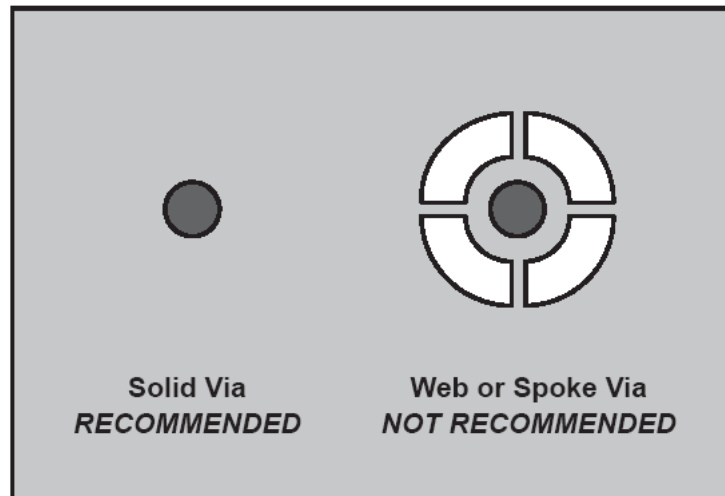

Figure 9.7: Via Connection.
4. Do not use the typical web or spoke via-connection pattern when connecting the thermal vias to the ground plane. Flood the via, rather than using a spoke pattern. See Figure 9.7. [1]
5. When connecting these holes to the ground plane, **do not** use the typical web or spoke via connection methodology. Web connections have a high thermal resistance connection that is useful for showing the heat transfer during soldering operations. This resistance makes the soldering of vias that have plane connections easier. In this application, however, low thermal resistance is desired for the most efficient heat transfer. Therefore, the holes under the IC PowerPAD package should make their connection to the internal ground plane, with a complete connection around the entire circumference of the plated-through hole. See Figure 9.7.